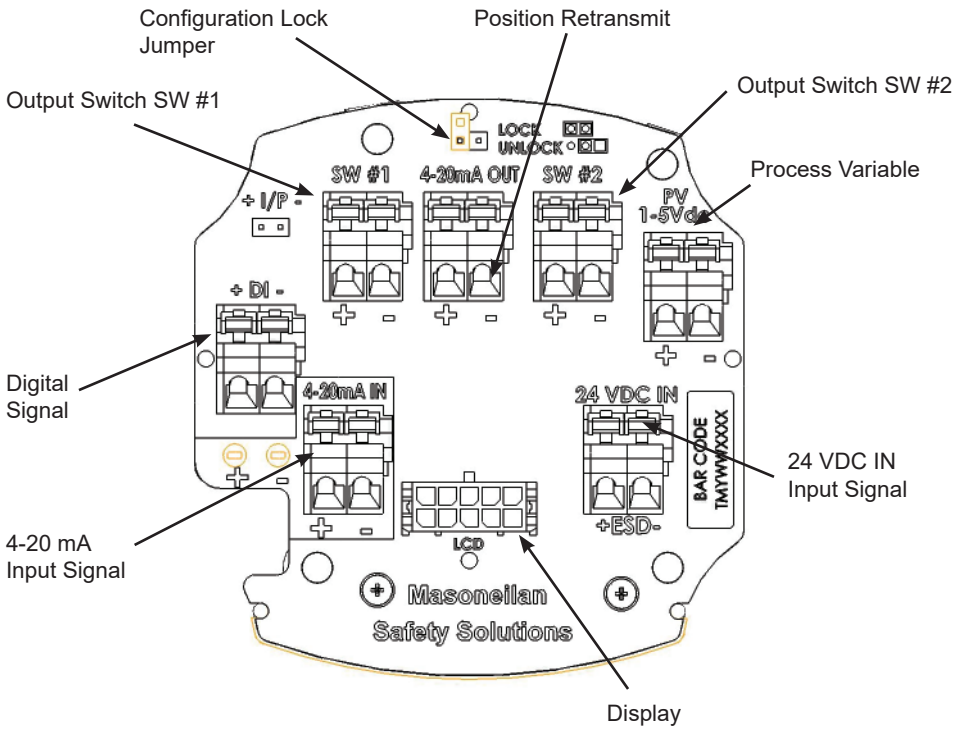

Figure 17 - Connections to A/DSD Electronics Module (via Terminal Board)
5. Connect the +/- terminals of the 24 VDC power source to the 24 VDC ESD IN connector (on the terminal board). The voltage source + must connect to the terminal board connector +, and the same for -. Figure 17 on page 45.